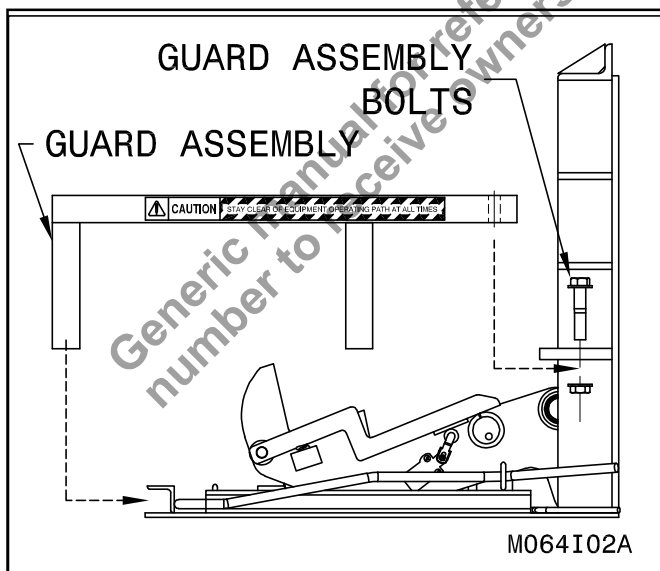

Figure 4: Remove/ Replace Guard Assembly
6. ___ Remove the guard assembly from the restraint by unbolting and sliding the guard forward. (See "Figure 4: Remove/ Replace Guard Assembly" on page 10)
5. ___ Reposition the restraint and remove the guard assembly from the restraint. (see “Figure 4: Remove/ Replace Guard Assembly” on page 10)
6. ___ Proceed to Method 1, Method 2, Method 3 or Method 4 as determined in item 2.